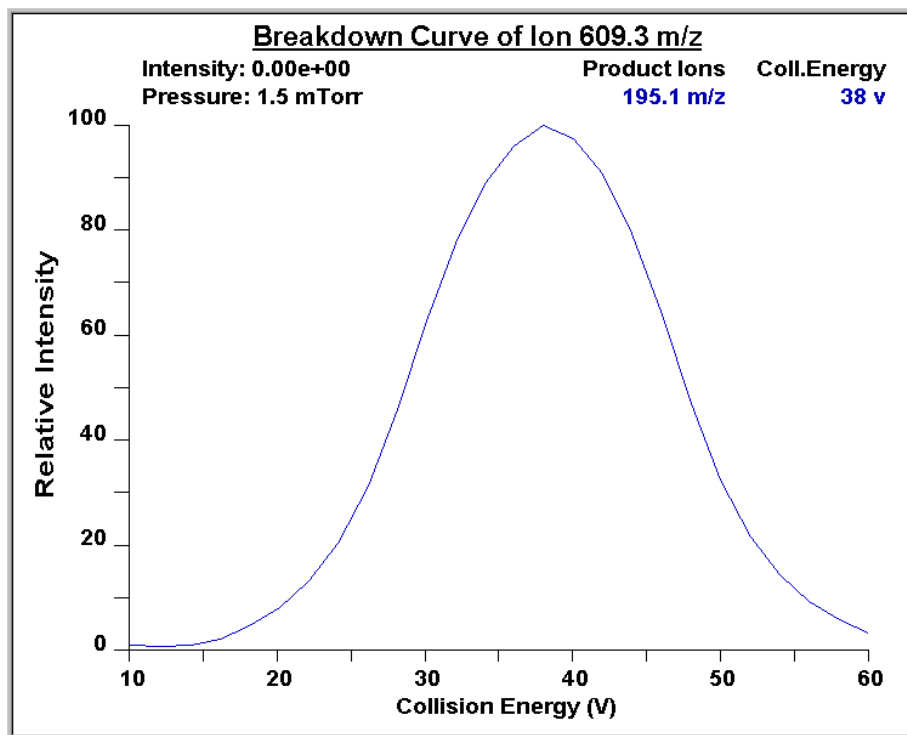

Figure 7-11. Breakdown curve of reserpine showing the relative intensity of the product ion at m/z 195.066 as a function of collision energy
- If the compound optimization procedure finishes without errors and the breakdown curve of the 195.066 fragment is Gaussian-shaped (as in Figure 7-11) or is a smooth, positive-sloped curve, go to step 6.